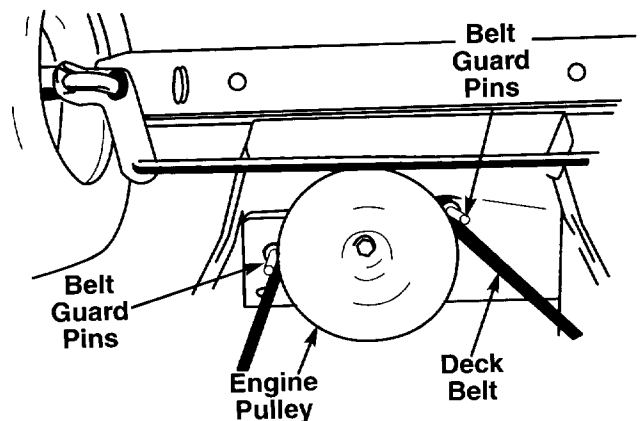

FIGURE 15.
- Remove the two belt guard pins from the engine pulley belt guard. See figure 15.
NOTE: Make certain belt guard pins are reassembled as shown in figure 15.
NOTE: Figures 15, 18 and 19 are shown with the unit tipped up for clarity. It is not necessary to tip the unit to remove the belts.